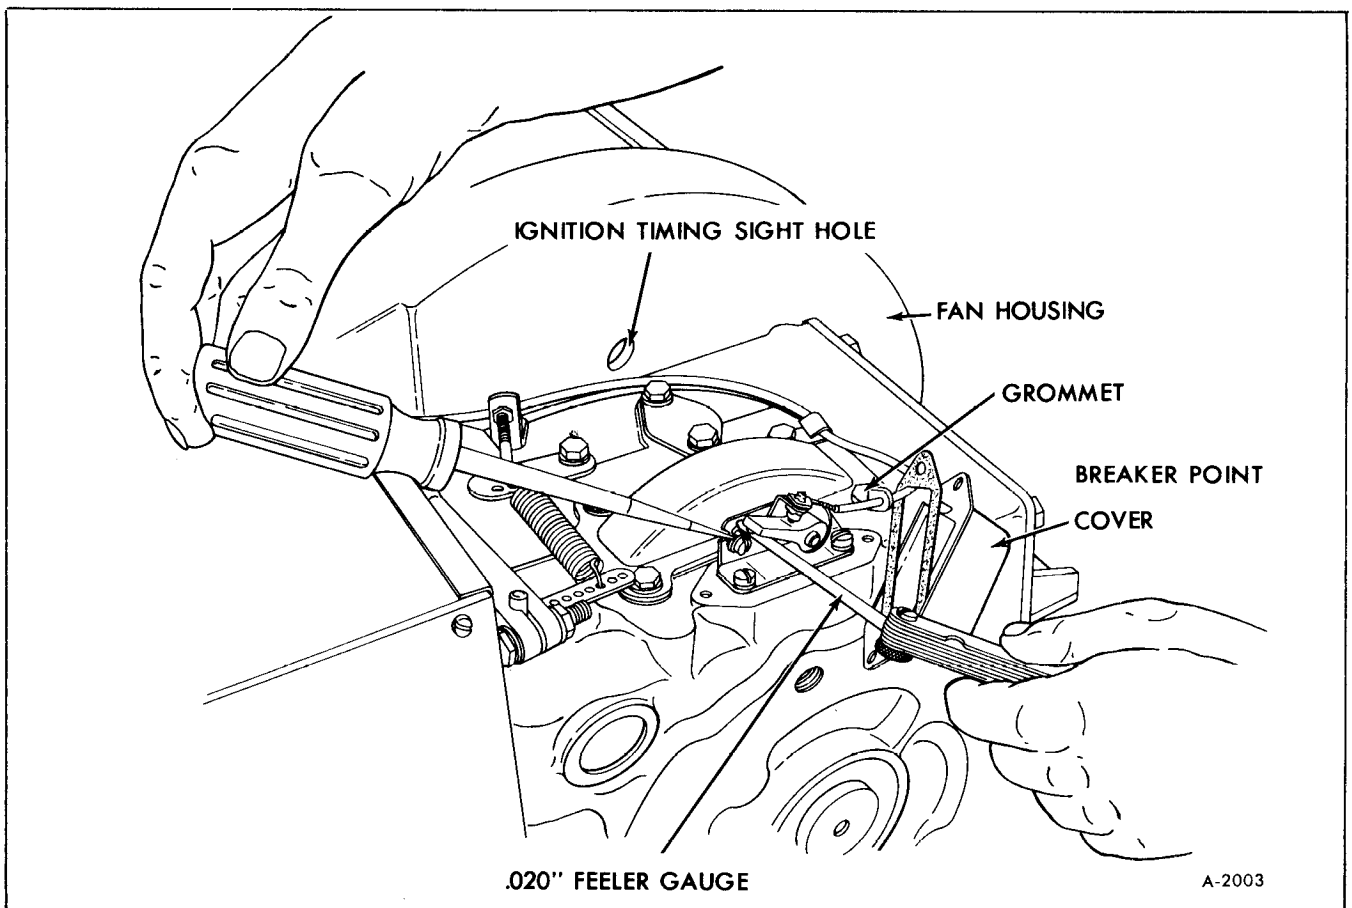

Figure 27—Adjusting Breaker Points
*Breaker Points:* (figure 27) Every 200 hours breaker points should be inspected and serviced as needed. If oxidized, dirty or oily, clean with coarse cloth – do not use emery cloth or sandpaper. Slightly pitted points can be dressed with point file – replace badly pitted or burned points. The gap must be adjusted after points are serviced or replaced since this setting establishes ignition timing. To adjust, crank engine until points are at maximum opening – check with feeler gauge. If gap is not .020", loosen adjusting screw then shift movable plate until .020" gap is obtained. After retightening screw, recheck to make sure gap is still properly set, then replace cover.